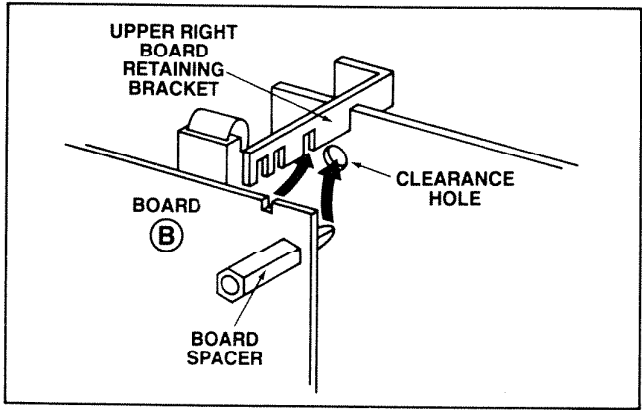

FIGURE 10
4. Reinstall Board (B) which had been previously removed. Refer to Figure 10.
- (a) Return Board (B) to its original upright position and attach upper right hand section of Board (B) first by inserting nose of the board spacer into clearance hole in rear board and then inserting Board (B) into rear slot on the upper right board retaining bracket. See Figure 10.
- (b) Temporarily leave Board (B) in this position.